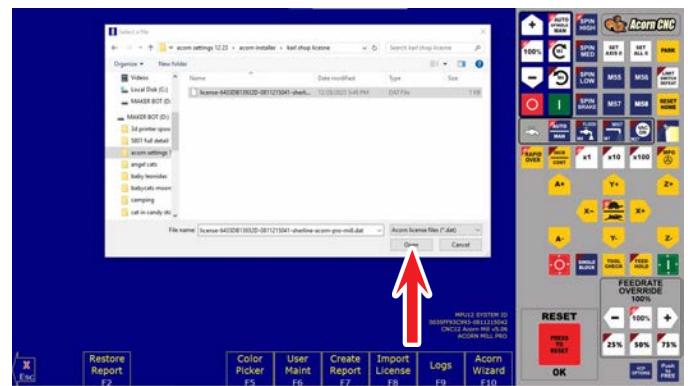

FIGURE 3
4. Select your Pro license file, then click **Open** (see Figure 3).